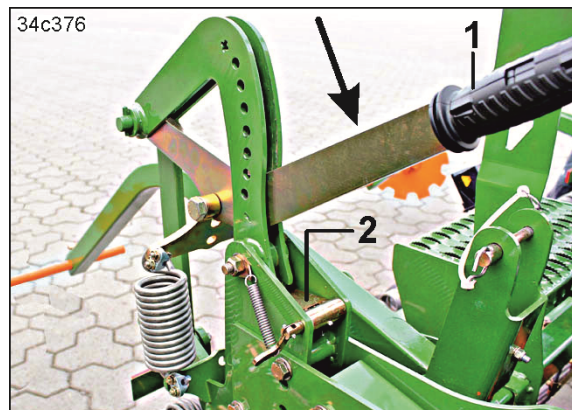

Fig. 203
4. Push the lever (Fig. 203/1) in the direction shown by the arrow until the clamping plate (Fig. 203/2) engages.